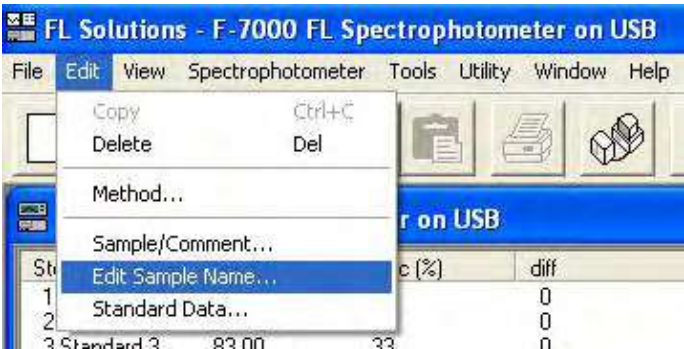

Fig. 4-32
- (a) Select Edit Sample Name from the Edit menu as shown in Fig. 4-32.